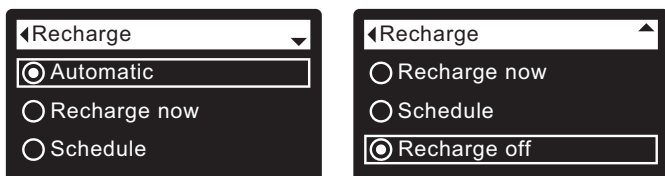
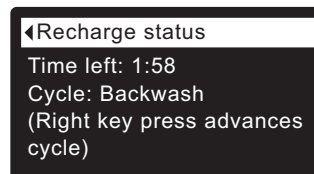

FIG. 45
FIG. 46
3. Press the SELECT (O) button to display the Recharge menu (See Figure 45).
4. If the desired option already has a dot next to it (See Figure 45), go to Step 5. Otherwise, press the DOWN (▼) or UP (▲) buttons to scroll to the desired option, then press SELECT (O) to choose it.
- **Recharge now** begins a recharge immediately after the SELECT (O) button is pushed again in Step 5.
5. Press the SELECT (O) button. If **Recharge now** is selected, the display immediately goes to the Recharge status screen (See Figure 46).